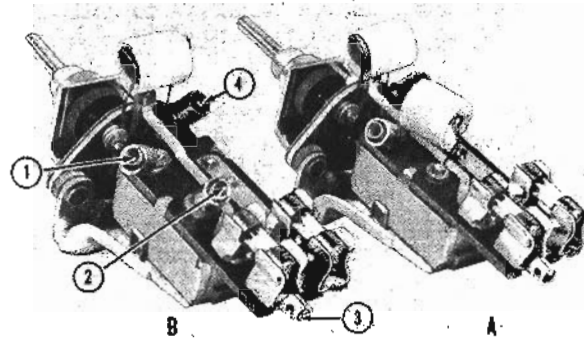

FIG. 1
1. Remove the present combination heater and defroster switch (Part No. 1540151) Type A shown in Fig. 1. Install the new switch, Type B in Fig. 1. Connect the yellow heater motor wire to the #1 terminal. (Fig. 1). Connect the added red wire 'F' (48" long) to #2 terminal. Connect the switch feed wire to the #3 terminal and the defroster wire to the #4 terminal.